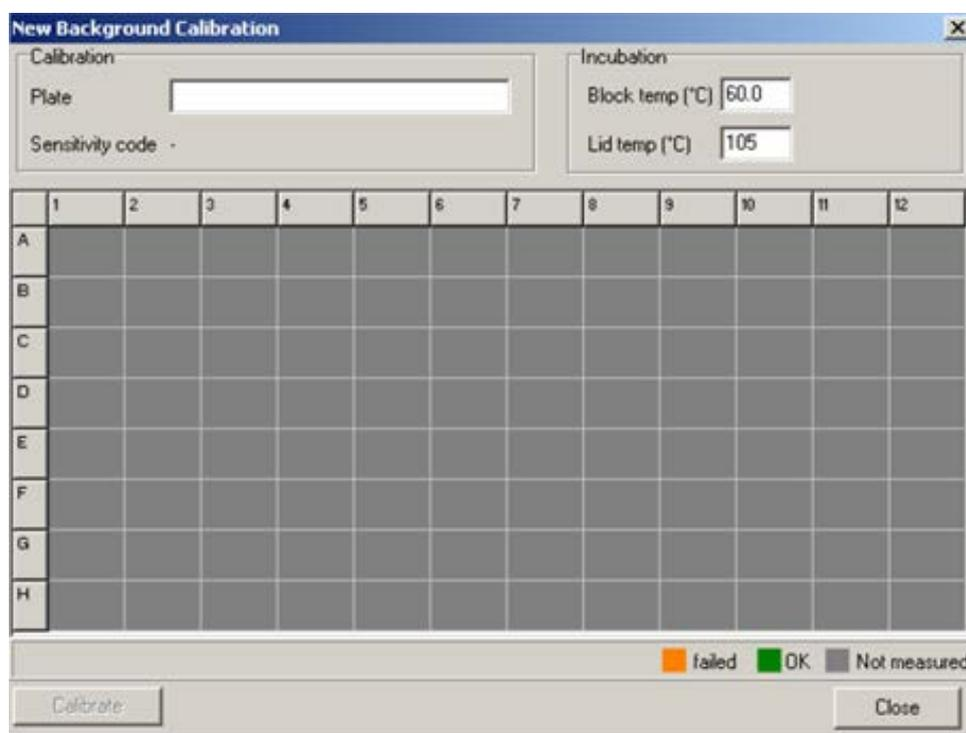

Figure 2. "New Background Calibration" dialog box.
1. Before setting up an experiment, it is necessary to perform background calibration using an empty, capped A plate. Click on "Setup," then "Background Calibration." A list of previously performed calibrations will appear. Click "New..." to open the following dialog box (Figure 2):